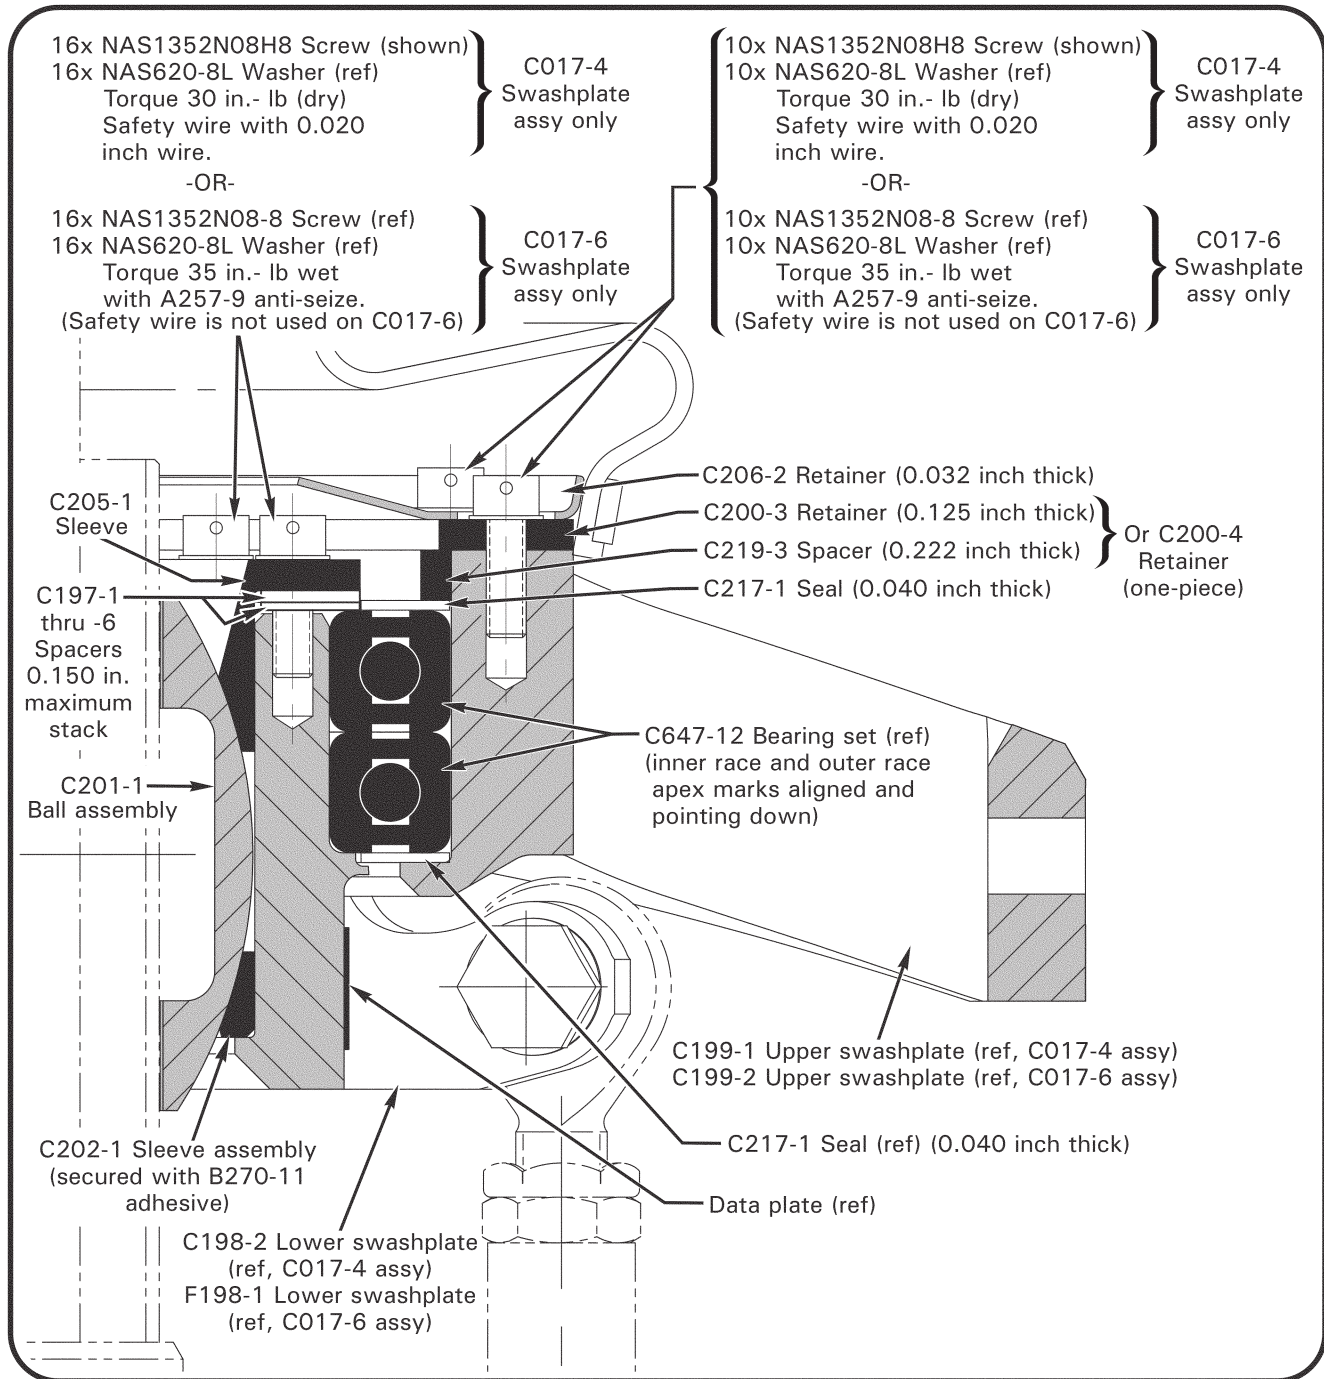

**FIGURE 8-11 MEASURING SWASHPLATE TILTING FRICTION**
2. Refer to Figure 8-11. Align upper swashplate arms with lateral axis of helicopter and center cyclic stick. Using MT359-1 spring scale (or equivalent) connected to upper swashplate arm bolt hole, pull down and note scale reading while swashplate is moving; do not use breakaway reading. For C017-6, force required to tilt swashplate must be between 2 and 7 pounds. For C017-4, force required to tilt swashplate must be free-without-looseness minimum to 5 pounds maximum.